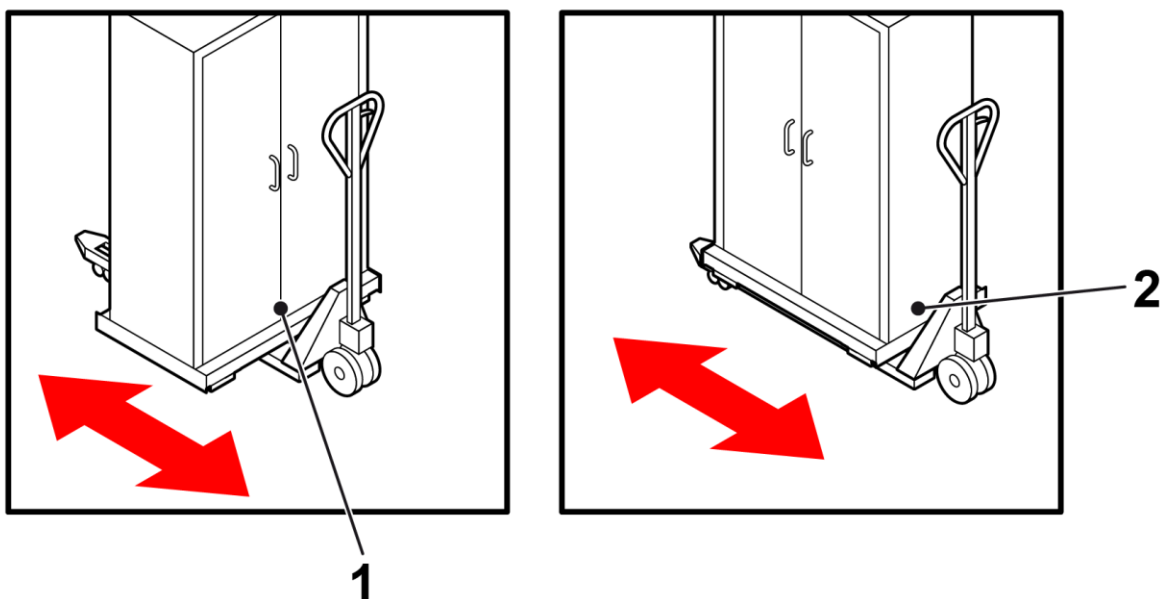

Fig. 10: Transporting the safety storage cabinet
- ➔ Fit the side panels on the wooden dowels inserted in the front panel (Figure 10).
- ➔ Slide the three-part plinth panel under the safety storage cabinet (Figure 10).